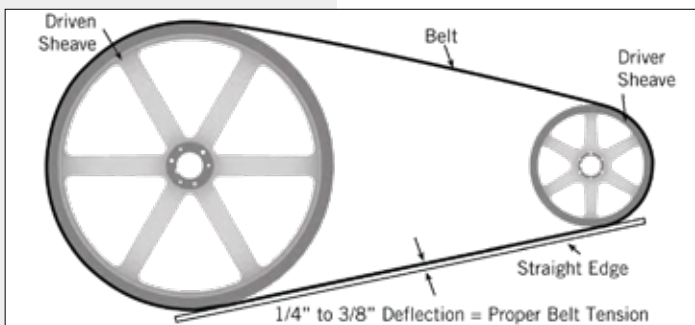
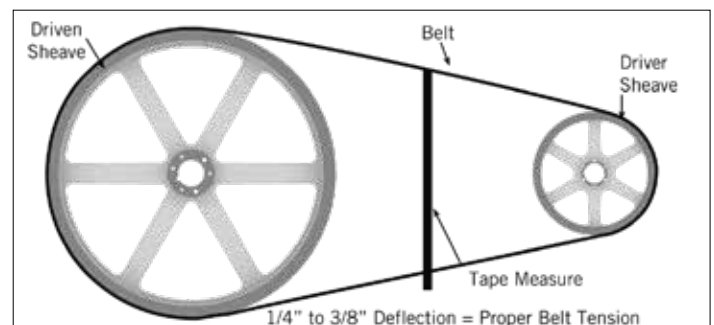

Figure 3a. Belt Tension with a Straight Edge
Figure 3b. Belt Tension with a Tape Measure
- Place a straight edge along the belt from sheave to sheave as shown in **Figure 3a**, or use a tape measure as shown in **Figure 3b** to measure belt deflection.
- There is adequate belt tension if the belt deflects between 6.35mm and 9.5mm as shown in **Figures 3a** and **3b**.